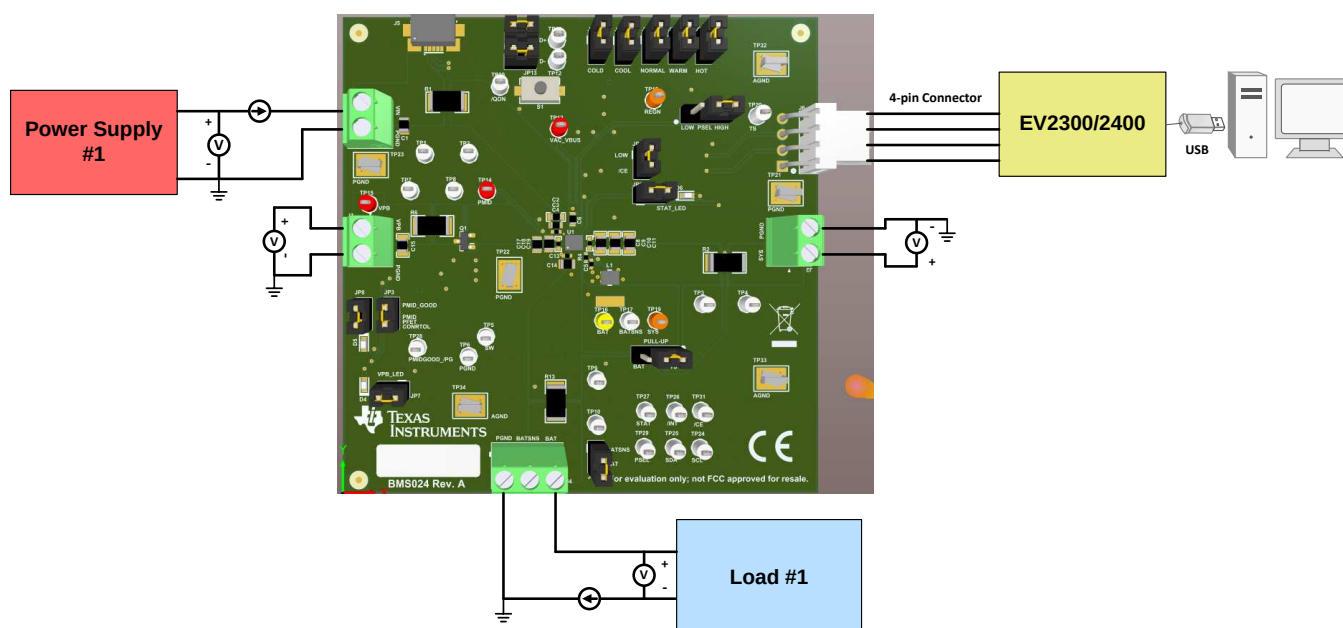

Figure 1. Original Test Setup for BMS024A
5. Turn on Load #1, set to constant voltage mode, and output to 2.5-V. Disable the load. Connect Load in series with a current meter, ground side, to J4 (BATTERY and PGND) as shown in Figure 1.
6. Connect one voltage meter across TP16 (BAT) and TP22 (PGND), or across J4-3 and J4-1 as shown in Figure 1.
7. Connect one voltage meter across TP19 (SYS) and TP21 (PGND), or across J2-1 and J2-2 as shown in Figure 1.
8. Connect one voltage meter across TP15 (VPB) and TP23 (PGND), or across J3-1 and J3-2 as shown in Figure 1.
9. Connect the EV2300/2400 USB interface board to the computer with a USB cable and from the I2C port to J8 with the 4-pin cable. The connections are shown in Figure 1.